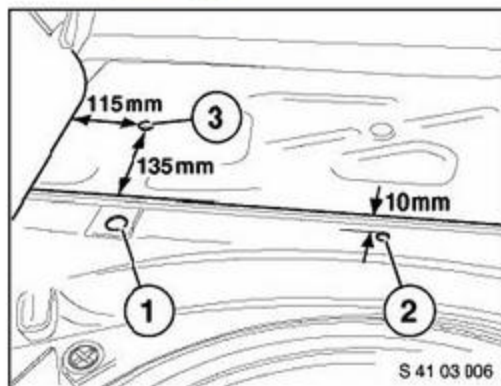

Figure 2
- Prepare holes for injecting cavity foam and structuring foam as follows (see Fig.2).